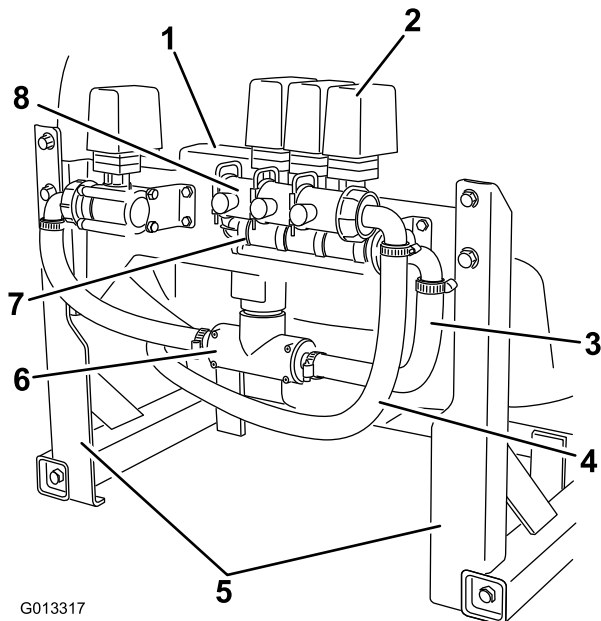

Figure 7
1. Loosen the hose clamp securing the boom supply hose to the right angle barb coming from the right side of the boom valve manifold. (Figure 7). Remove the hose from the barb.
2. Move to the lower tee fitting below the boom valve assembly (Figure 7). Remove the fork securing the barb and hose to the right side of the tee fitting. Retain the fork and one hose clamp.
5. Move the valve manifold assembly. Attach the flowmeter bracket to the open plate between the manifold and the main tank (Figure 7). Use two flange head screws (1/4 x 3/4 inch) and two flange nuts (1/4 inch) to secure the bracket to the plate.